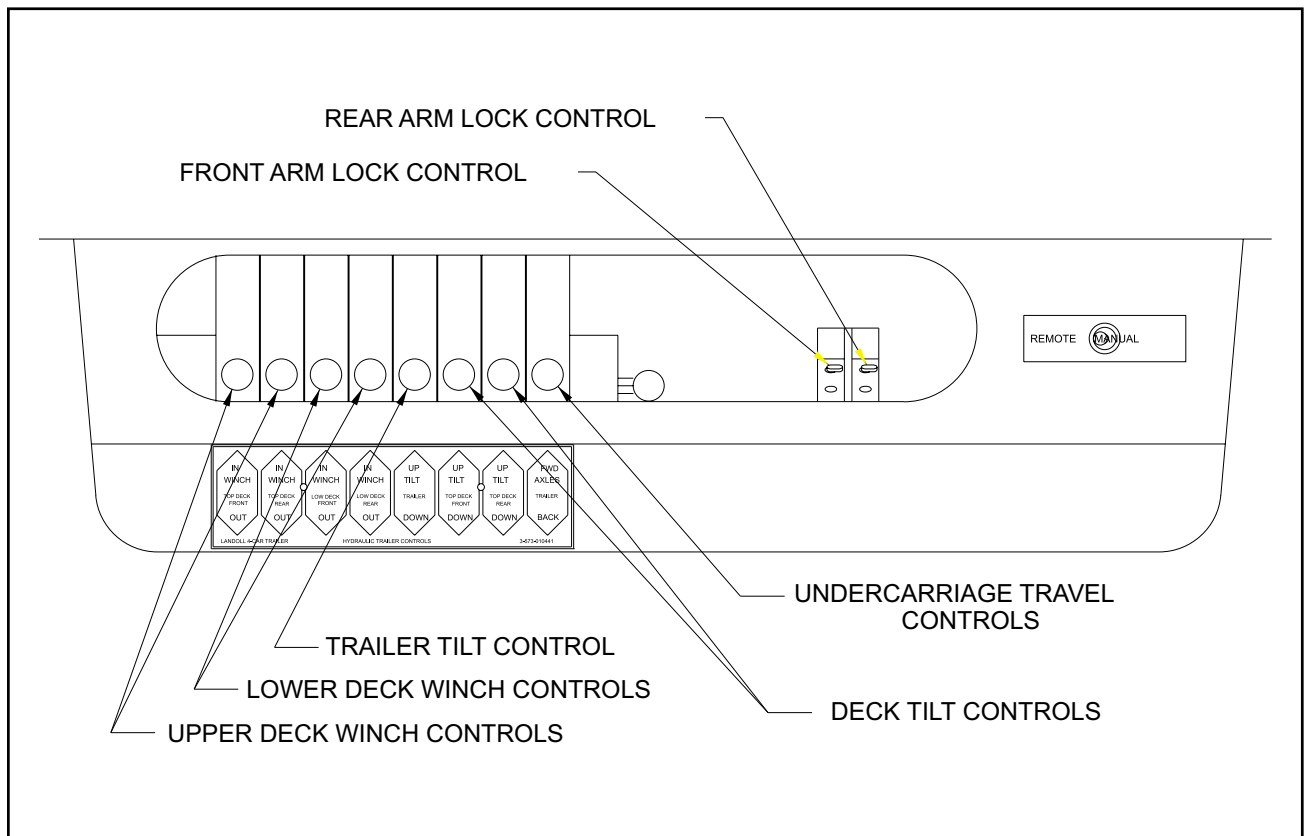
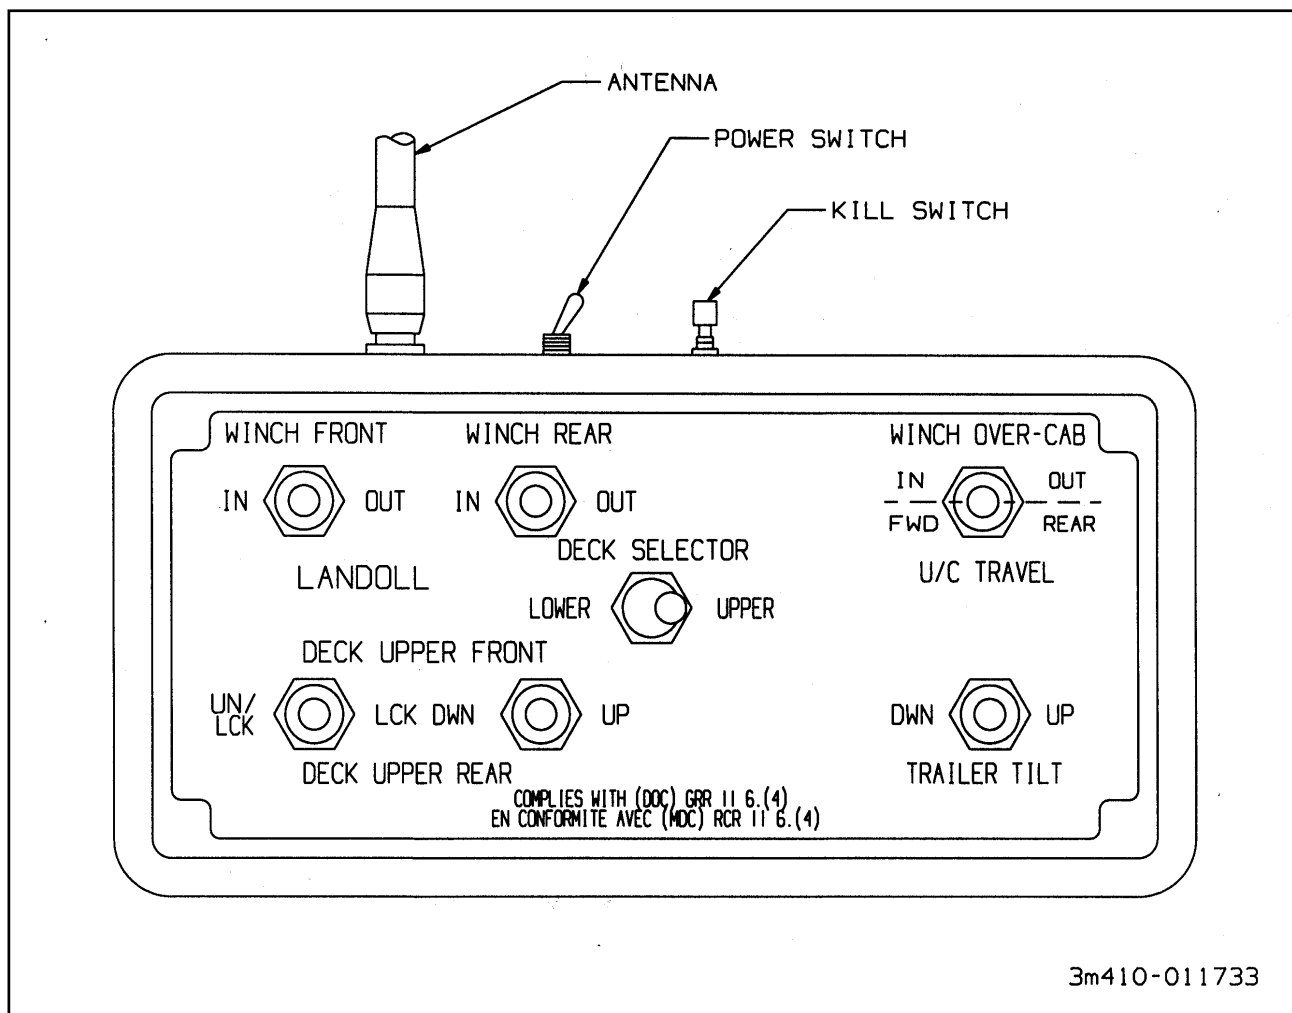

Figure 3-2 Hydraulic Control Levers
Figure 3-4 Remote Control
3-2.2 The king pin plate should be the same height as, or slightly lower than, the latch area of the fifth wheel plate of the tractor. If necessary, connect the tractor hydraulic lines. Use the **TRAILER TILT CONTROL** (See Figure 3-2) to raise or lower the king-pin plate sufficiently to allow proper coupling. Drain all air and moisture from the tractor air brake system in accordance with the tractor manufacturer's instructions.
- 3-5.1 While hydraulic power is operating, raise the front end of the semitrailer with the **TRAILER TILT CONTROL (See Figure 3-2)** until weight is off the landing gear. Raise landing gear. Secure each leg with a park stand retaining pin in fully retracted position before transporting.
3-9.1 For manual control operation, switch the toggle on the right end of the control panel to “**MANUAL**”. For remote control operation, switch the toggle on the right end of the control panel to “**REMOTE**” and refer to **Section 3-11** instructions. The **MANUAL LOCK CONTROLS** on the air valves must be in the lock position for remote operation of the air valves (See **Figure 3-2**).
3-10.1 The **WINCH HYDRAULIC CONTROLS** (See Figure 3-2) are located on the hydraulic control panel and the remote control (See Figure 3-4). It is a three position control:
3-11.1 The **POWER SWITCH** is located on the top of the box and must be turned on for the the remote control to operate (See **Figure 3-4**).
3-11.3 The **DECK SELECTOR** is in the middle of the front panel. (See **Figure 3-4**).
3-12.1 Hold the **LOCK CONTROL** in the unlock position (See Figure 3-2) and joggle the **TRAILER TILT CONTROL** for that arm until it unlocks.